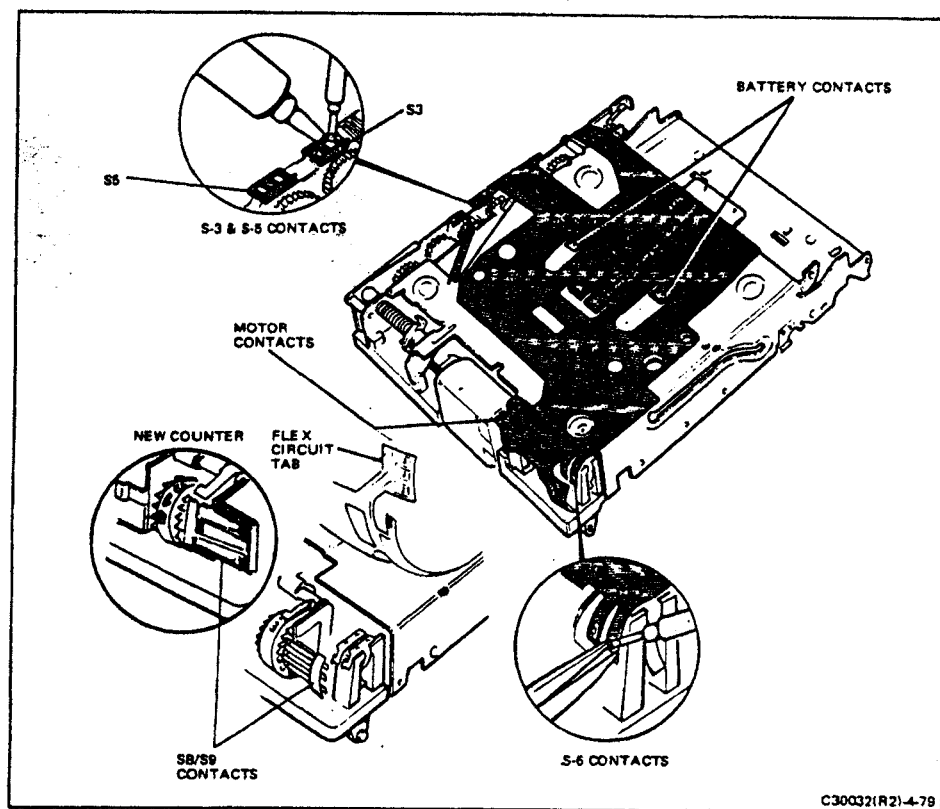

FIGURE 4-79 SOLDER POINT IDENTIFICATION
4. Using the specified soldering iron and solder-removing device, unsolder the three S8/S9 counter switch contacts from the flex circuit (Figure 4-79).
**NOTE:** Newer counters have a different pattern of contacts as shown by the inset in Figure 4-79.